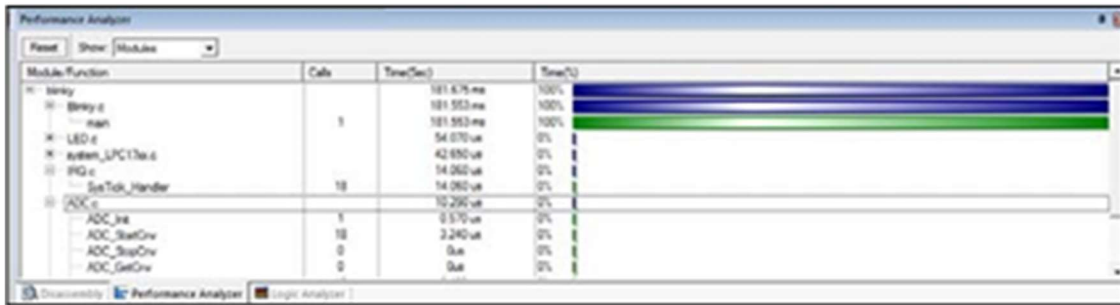

Figure 17: Performance Analyzer Window
4. Watch the program execution and how the functions are called. You will see something similar to that of Figure 17. The analyzer is able to gather various statistics dynamically from the program, useful for both debugging and performance assessment. Stop the program when you have finished analyzing with the PA tool.